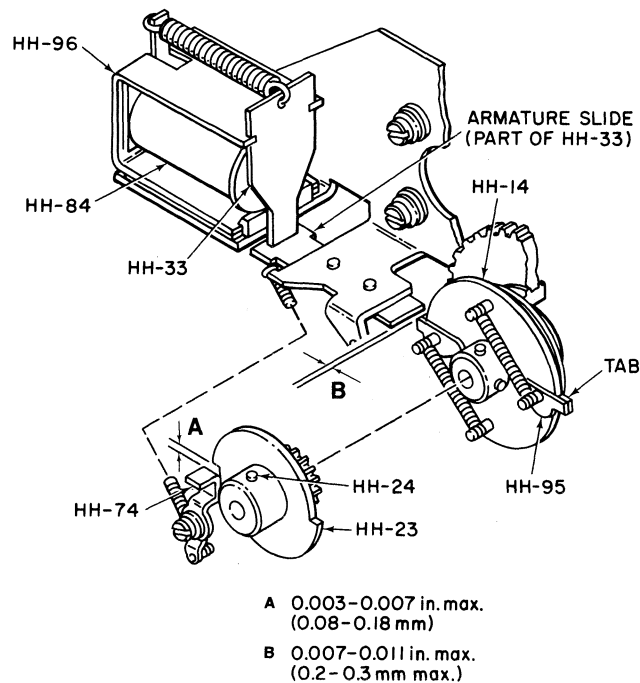

Figure 5-4A. TWO ADJUSTMENTS, GEAR WITH STOP CAM (HH-23) AND INSIDE CAM (HH-14)
- A. Gear with Stop Cam (HH-23) and Back Stopper (HH-74) Refer to Figure 8-9 (HH and Fig. 5-4A)
It is at this point, when the shaft is released, that an adjustment must be made to the gear with stop cam (HH-23) to prevent counter-movement of paper. (Refer to Figure 5-4A)
- B. Clutch, Inner Cam (HH-14) - Armature Slide (HH-3) (Refer to Figure 5-4A)